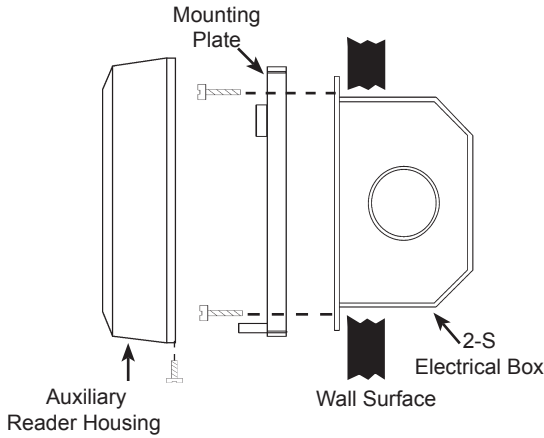

Figure 2 - Basic Installation
1. Orient the mounting plate with the threaded insert at the bottom; attach it to a single-gang electrical box with two 6-32 x 1/2" screws (supplied); or attach directly to the wall surface, using anchor screws or toggle bolts (Figure 2).